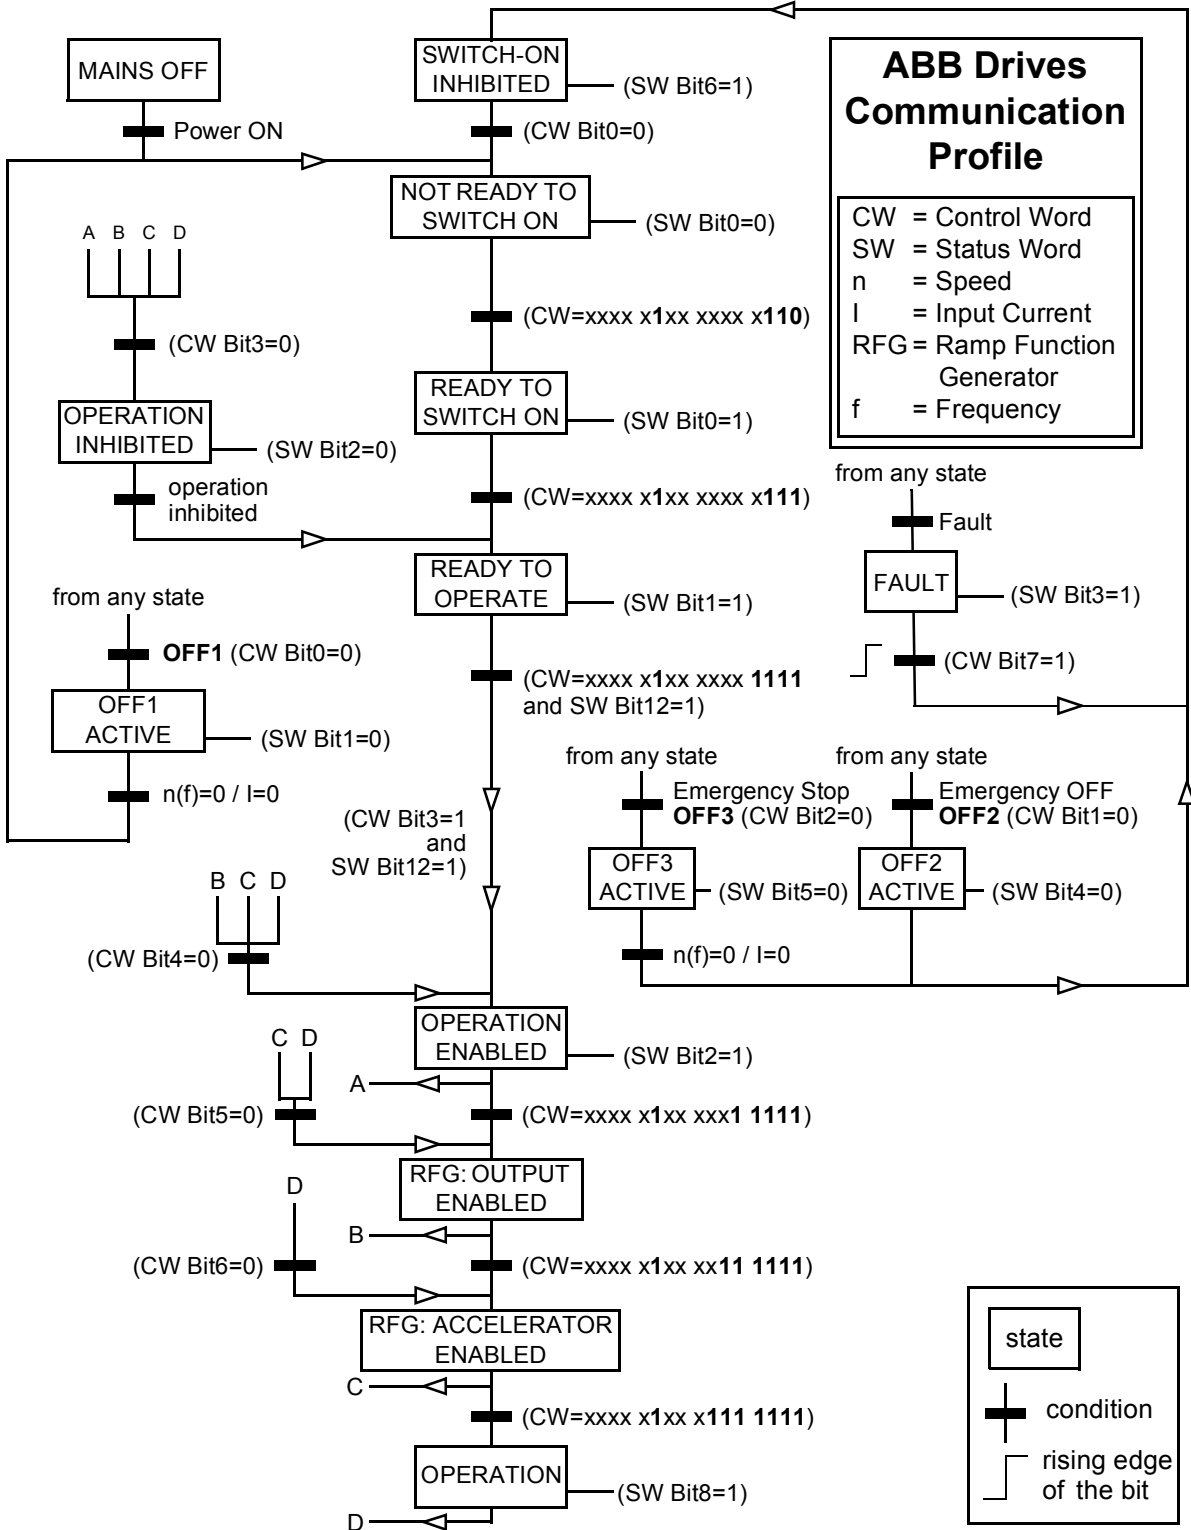

Figure 15. ABB State Transition Diagram
The contents of the Control Word and the Status Word are detailed in Tables 13 and 14 respectively. The drive states are presented in the ABB Drives profile state machine (Figure 15).
*Table 13. The Control Word for the ABB Drives communication profile. The upper case boldface text refers to the states shown in Figure 15.*
*Table 14. The Status Word for the ABB Drives communication profile. The upper case boldface text refers to the states shown in Figure 15.*